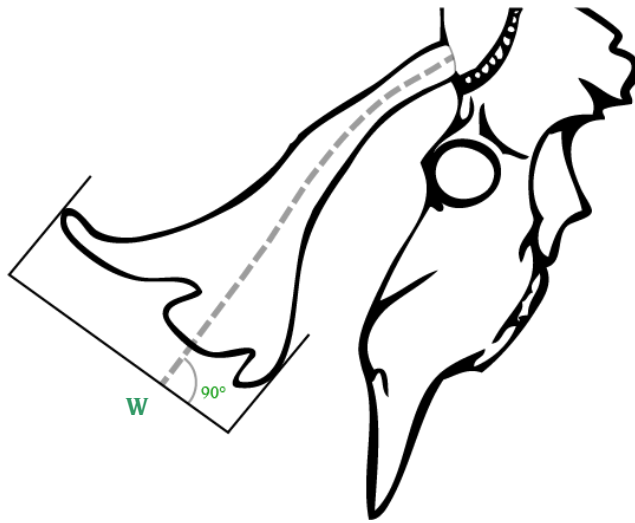

Figure 3
6. Height of the brow (or shovel). Measure at a 90-degree angle to the center line of the shovel (Figure 3, W). This measurement should be taken with a set of calipers. This height measurement must be taken at a 90-degree angle to the center line of the brow to avoid excessive brow scores. If the shovel is not palmated and is just a spike, enter a value of "1" for its score as long as it is at least one inch in length and is not wider at the base than it is long.